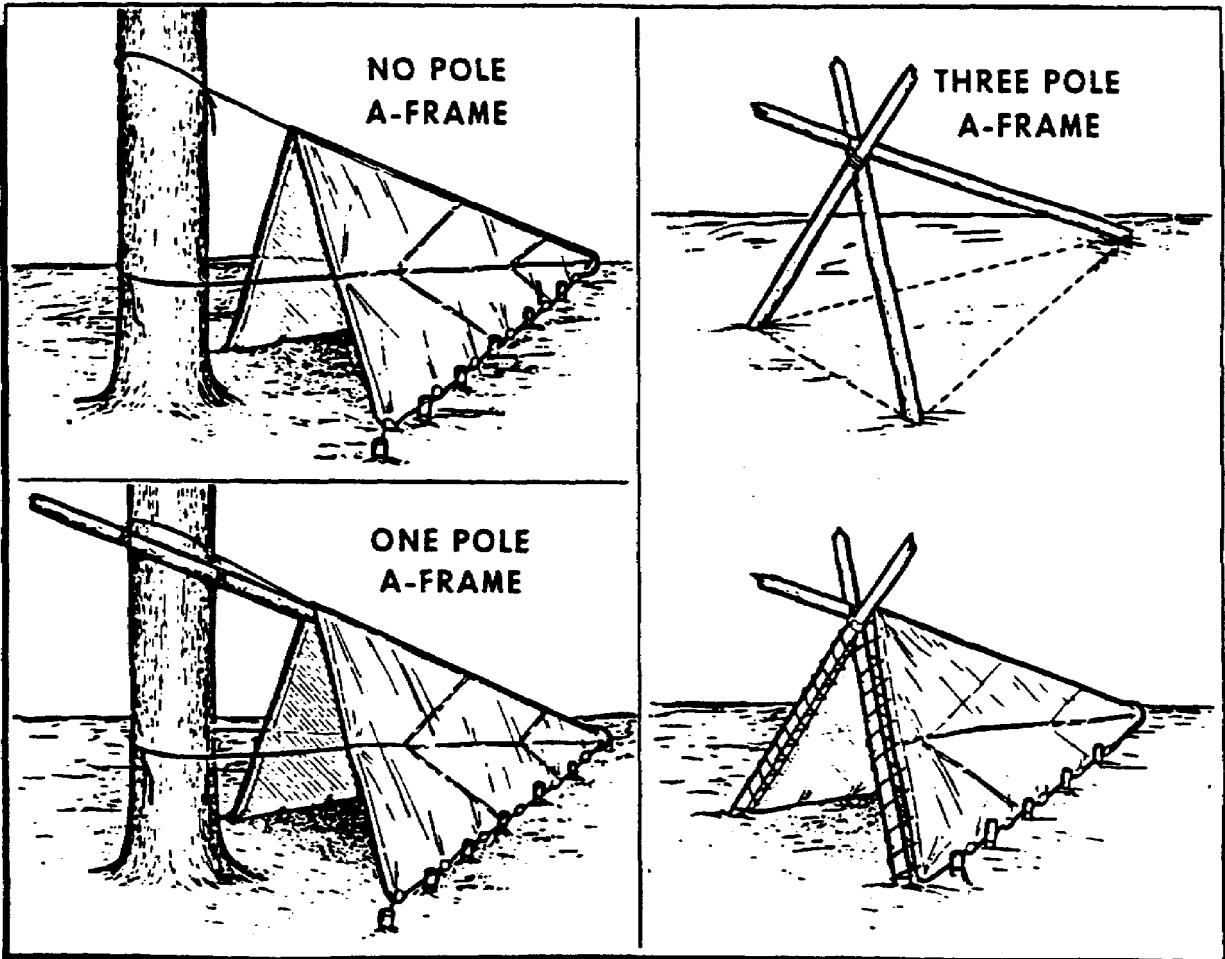

Figure 20. A-frame shelters.
(2) Improvised. Shelters of this type should be easy to construct or dismantle in a short period of time. However, these shelters usually require more time to construct than immediate action shelters. For this reason, you should only consider this shelter type when you are not immediately concerned with getting out of the elements. These shelter types include the A-frame, simple shade shelter (useful in dry areas); various poncho shelters; snow and tree-pit shelters; sod shelters; and other variations.
a. A-frame. The A-frame design is adaptable to all environments and is easily modified (Figure 20). There are as many variations of this shelter as there are builders. Types include the tropical para-hammock, temperate area "A-frame," arctic thermal "A-frame," and fighter trench. One way to build an A-frame shelter in a warm temperature environment is to use fabric material for the covering. The procedures in Figure 21, if followed carefully, result in completing a safe shelter that meets your needs.